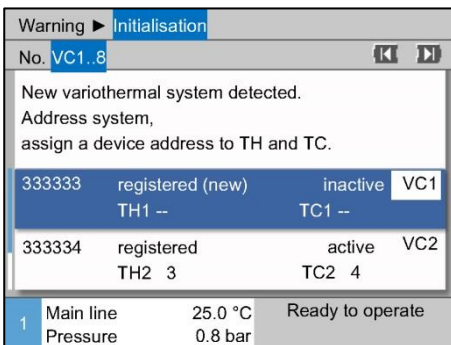

Fig. 20: Assign Module ID
2. Press the key and adjust the address of the VC module (→ Fig. 20 Ex. VC1)